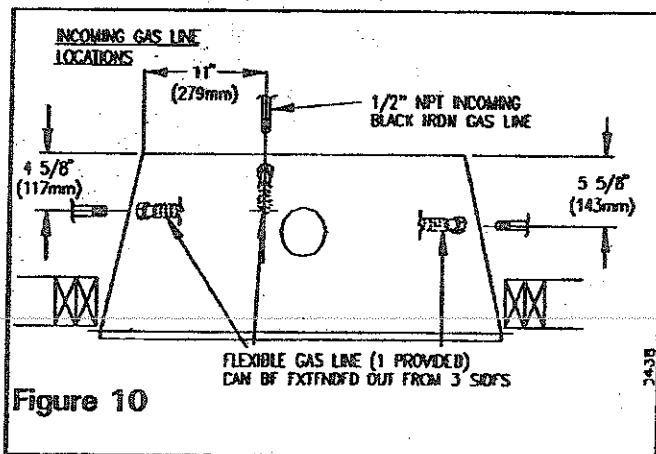

Figure 10
3. Install the line to the appliance using a 1/2" NPT black iron gas line terminating 2-5/16" above the bottom of the appliance. The gas line may be installed from either side or from the rear of the appliance (see Figure 10).
In conformance with local codes, route a 1/2" NPT GAS LINE towards the appliance coming in from any of the 3 directions shown in Figure 10.